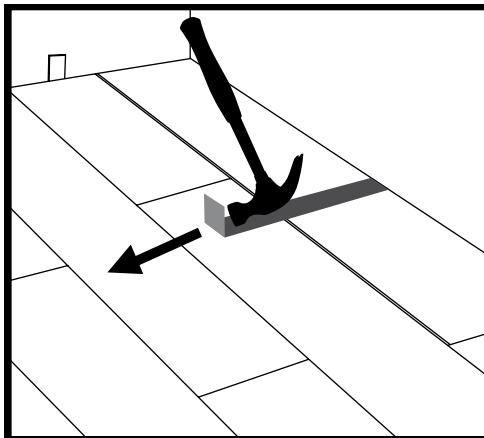

Figure 7
- Use a hammer and pull bar to secure long edges of planks on final row. Always use a pull bar on the cut edge of the plank. Factory edges can be damaged if the pull bar is used directly against them. (See figure 7.)